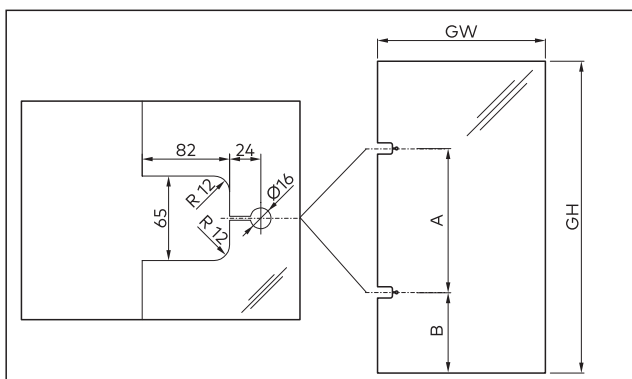

Fig. 10 Glass preparations
2. Check dimensions of glass preparation (Fig. 10).
1. Vertically mark the recesses for the mounting plates in the door frame. For dimensions A and B see Fig. 10.